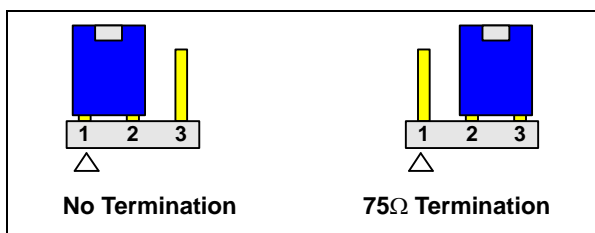

Figure 2-3. Genlock Termination Settings
- Place a jumper on pins 1 and 2 to set the module for No Termination, or pins 2 and 3 to set 75Ω Onboard Termination (see Figure 2-3).